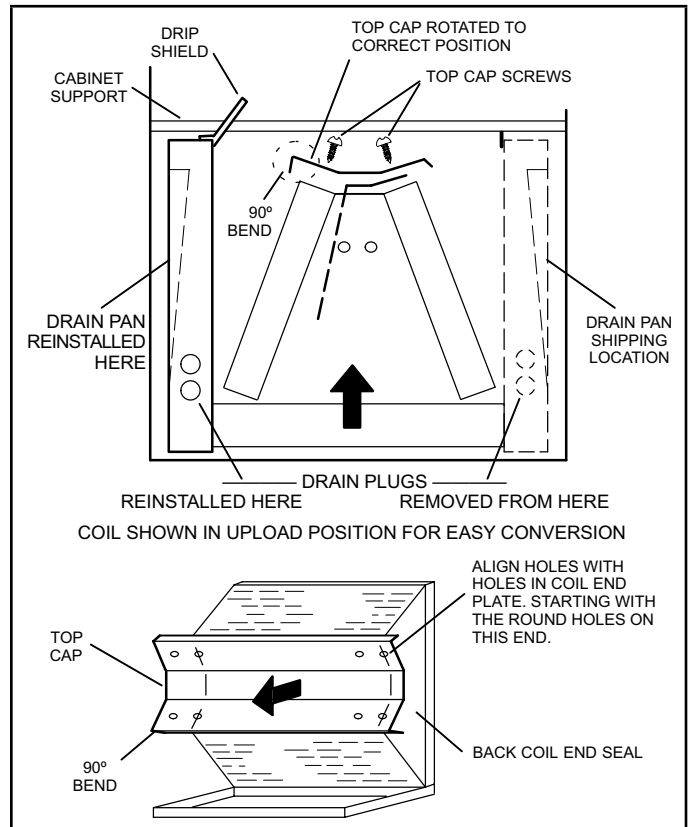

FIGURE 6. Field Modification for Left-Hand Discharge
- 5 - Remove screws from top cap. Remove horizontal drip shield screw located in the center of the back coil end seal as illustrated in figure 6.
- 8 - Rotate top cap 180° front-to-back and align with unused screw holes. Holes must align with front and back coil end plates. The top cap has a 45° bend on one side and a 90° bend on the other. **The 90° bend must be on the same side as the horizontal drain pan** as illustrated in figure 6.
- 9 - From the upflow position, flip cabinet 90° to the left and set into place. Replace blower assembly. Secure coil in place by bending down the tab on the cabinet support rail as illustrated in figures 6 and 7.
- 10 - Install the horizontal drip shield (060 model) on the front edge of the horizontal drain pan as illustrated in figure 6.